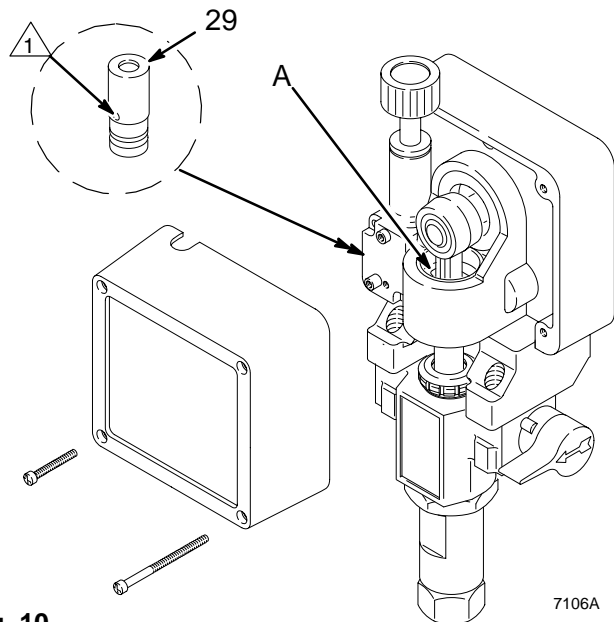

Fig. 10
4. **Periodically clean paint residue from the pressure transducer (29) vent hole area.** See Fig. 10. Replace the transducer when leakage is excessive. See page 28.
5. **Lubricate the bearing housing** after every 100 hours of operation. Remove the front cover. Fill the bearing housing cavity (A) with SAE 10 non-detergent oil. See Fig. 10.